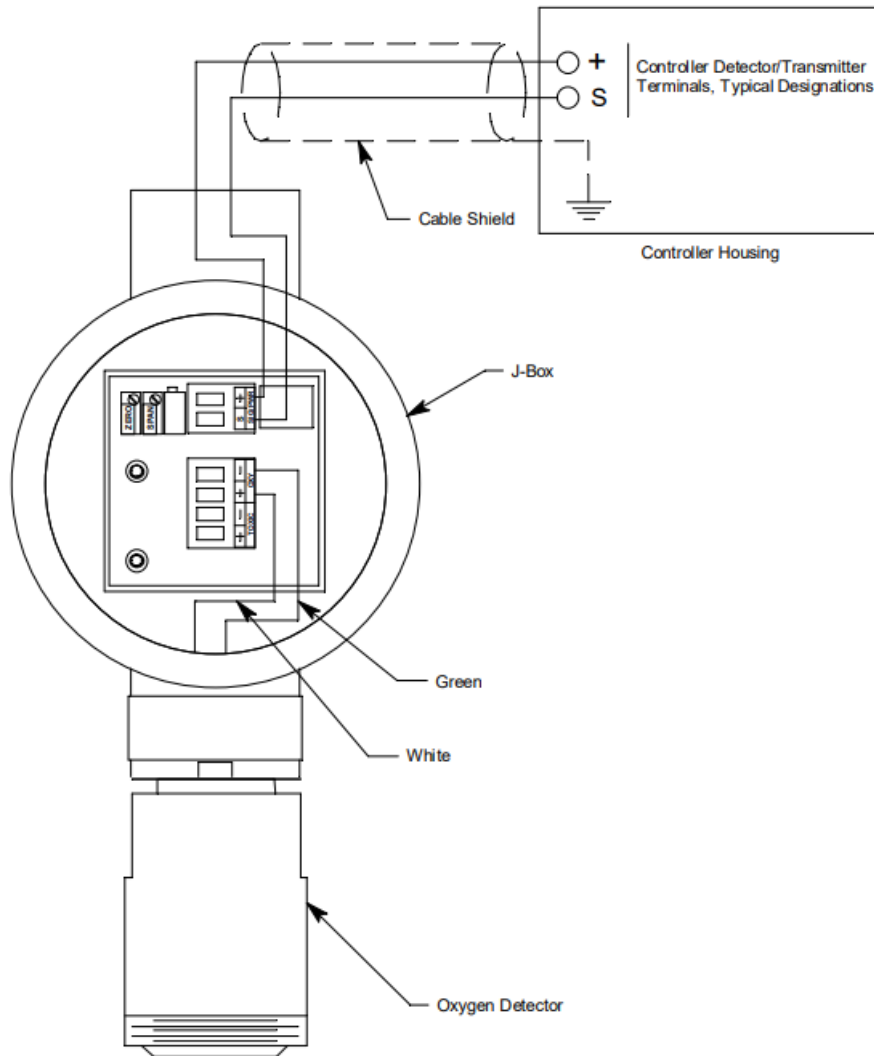

Figure 3: Wiring the Oxygen Transmitter to a Controller
4. The detector leads are factory wired. Verify that the detector leads are wired to the amplifier's detector terminal strip as shown in Figure 3.
7. Pull out the controller terminal strip, and connect the two wires to the terminal strip as follows (see Figure 3).
11. Connect the wires to the applicable detector/transmitter terminal strip at the controller as shown in Figure 3.
8. Connect the detector leads to the appropriate detector terminal strip terminals. Connect the white wire to the terminal labelled Oxy + and the green wire to the terminal labelled Oxy -. See Figure 3 on page 6 for the detector wiring connections to the amplifier.
8. Install the detector and controller terminals strips into their sockets on the new amplifier as shown in Figure 3 on page 6. If controller leads or detector leads were removed during this procedure, refer to Figure 3 on page 6 for the detector and amplifier connections.